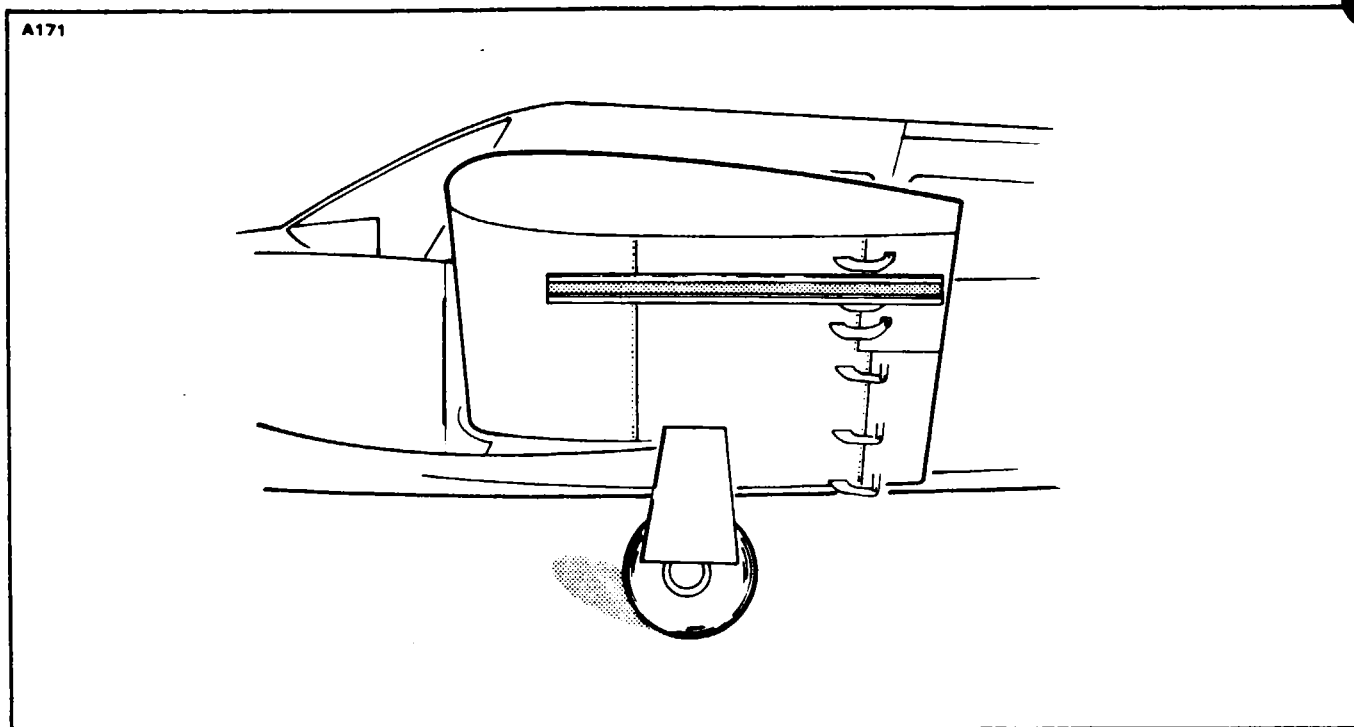

Figure 5-4. Aileron Rigging Tool
3. Place the aileron rigging tool as shown in Figure 5-4 against the underside of the wing and aileron as close as possible to the center of the aileron without contacting any rivets. The tool must be positioned parallel with the wing ribs and the aft end of the tool even with the trailing edge of the aileron.